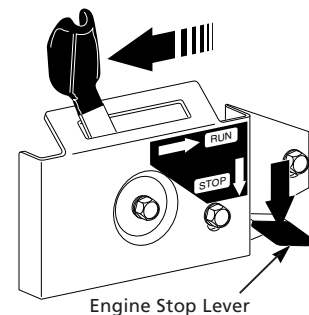

Figure 23 - Pushing Down Engine Stop Lever
3. Push down engine stop lever (See Figure 23). This releases engine run lever and stops engine. Do not stop engine with the decompression lever.